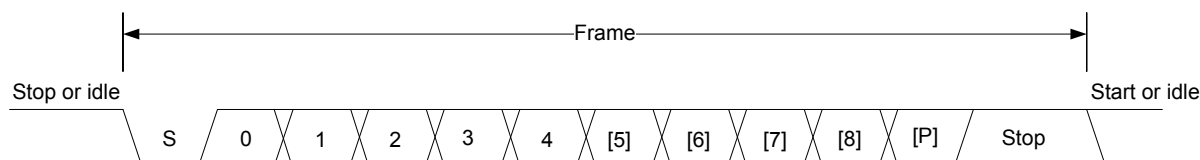

Figure 19.2. USART Asynchronous Frame Format
The frame format used in asynchronous mode consists of a set of data bits in addition to bits for synchronization and optionally a parity bit for error checking. A frame starts with one start-bit (S), where the line is driven low for one bit-period. This signals the start of a frame, and is used for synchronization. Following the start bit are 4 to 16 data bits and an optional parity bit. Finally, a number of stop-bits, where the line is driven high, end the frame. An example frame is shown in Figure 19.2 USART Asynchronous Frame Format on page 571.